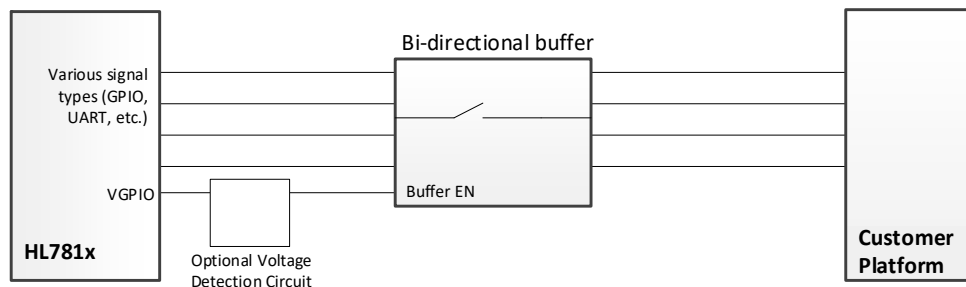
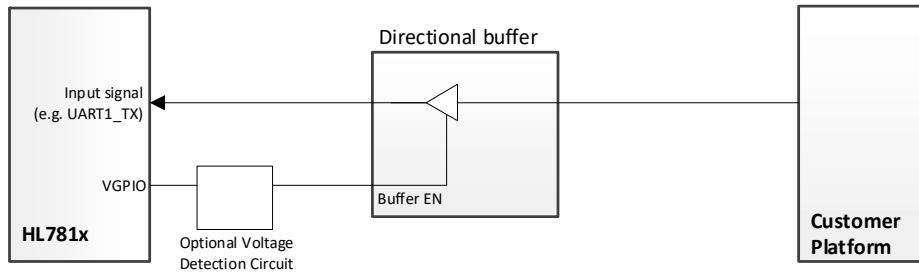

Figure 6-3: Example-Buffer - Bidirectional Signal
Figure 6-4: Example-Buffer - Directional Signal
- Bidirectional (Input/Output) signals— For module I/O signals (e.g. GPIOs), an analog switch that can tri-state both the output and the input can be used (e.g. Texas Instruments TMUX1511). As shown in Figure 6-3, I/O signals connected to the buffer will be tri-stated.
- Directional (Input) signals— For module inputs (e.g. UART1_TX), a logic buffer with output tri-state mode can be used (e.g. Texas Instruments SN74LVC1G126). As shown in Figure 6-4, the signal is controlled and, when disabled, the output signal is tri-stated.
To ensure faster detection of VGPIO transitions, Semtech recommends adding an optional voltage detection circuit (as shown in Figure 6-3 and Figure 6-4) to monitor and detect the transition low, and then control (enable/disable) the associated buffer circuit.